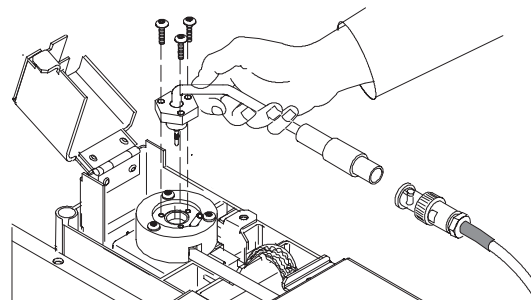

Figure 4 Removing the bead assembly
- 3 Lift up and remove the old NPD bead as shown in Figure 4. Avoid bumping the bead against the sides of the collector.